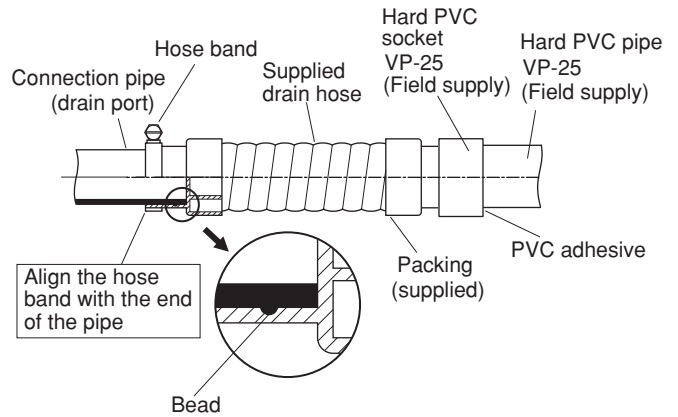

Fig. 3-37
The PVC pipe must be purchased separately. The unit's transparent drain port allows you to check drainage. (Fig. 3-37)
- Insert the drain pipe until it contacts the socket, as shown in Fig. 3-37, then secure it tightly with the hose band.
- Align the hose bands with the end of the hose. Tighten the hose band firmly. Please make sure that the bead is not covered by the hose band. (Fig. 3-37)
Tighten the hose clamps so their locking nuts face upward. (Fig. 3-37)